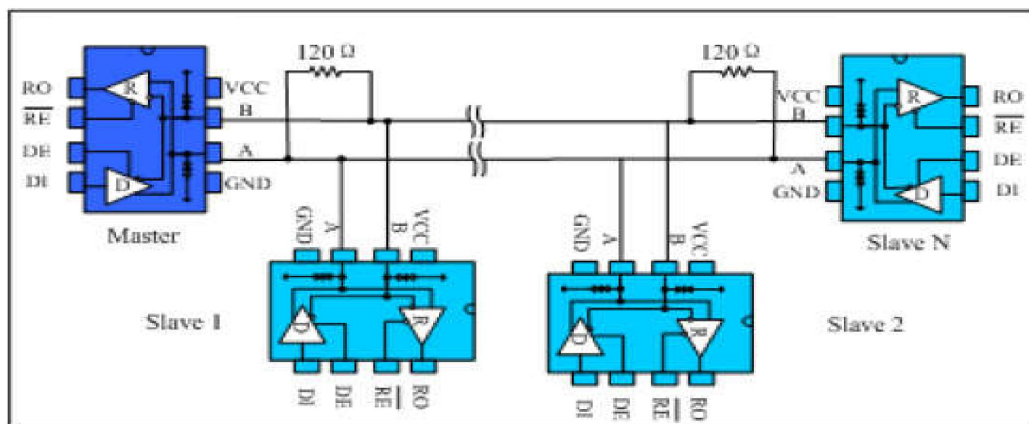

Fig. 9 Bus-type RS485 half-duplex communication network
4.1 Bus networking: The MAX483EESA-TD RS485 transceiver is designed for bidirectional data communication on multi-point bus transmission lines. Figure 9 shows a typical network application circuit. These devices can also be used